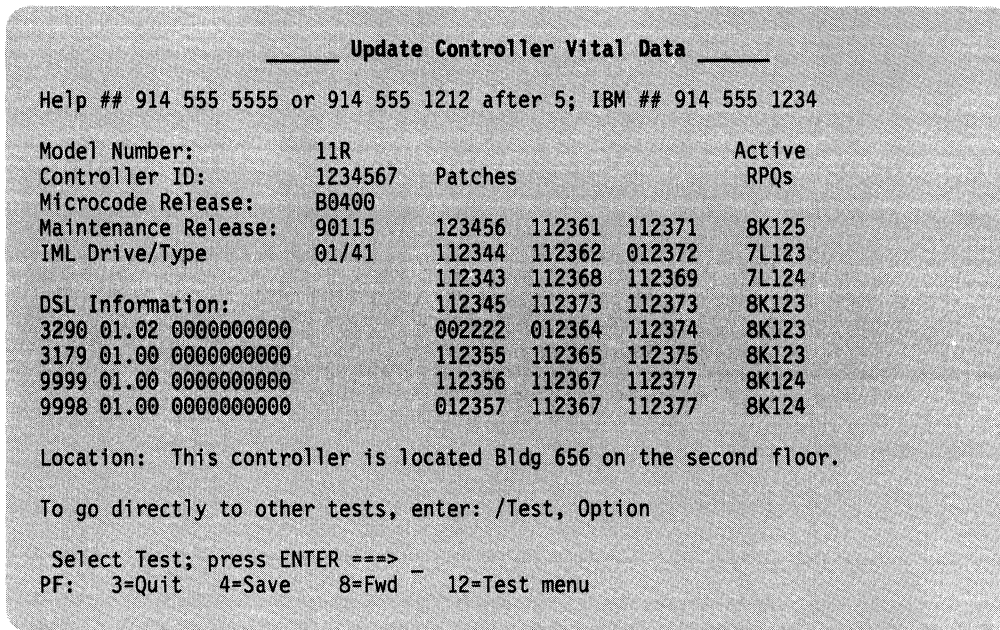

Figure 4-23. Update Controller Vital Data Panel—Configuration Support B
**Test 5, Option 2,p (p=password) — Configuration Support B:** Allows you to update the location field of the Controller Vital Data. Figure 4-23 shows an example of this panel for Configuration Support B.
For a description of the fields shown in Figure 4-23 on page 4-37, see "Test 5, Option 1 — Configuration Support B" on page 4-33.